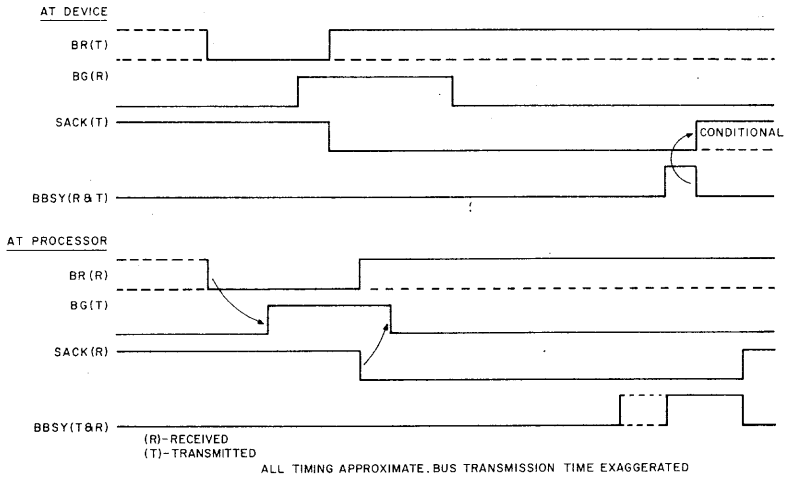

Figure 1-6 PTR Timing Diagram (nominally, for processor master)
1.3.1 Priority Transfer (PTR) Transaction (See Figure 1-6)